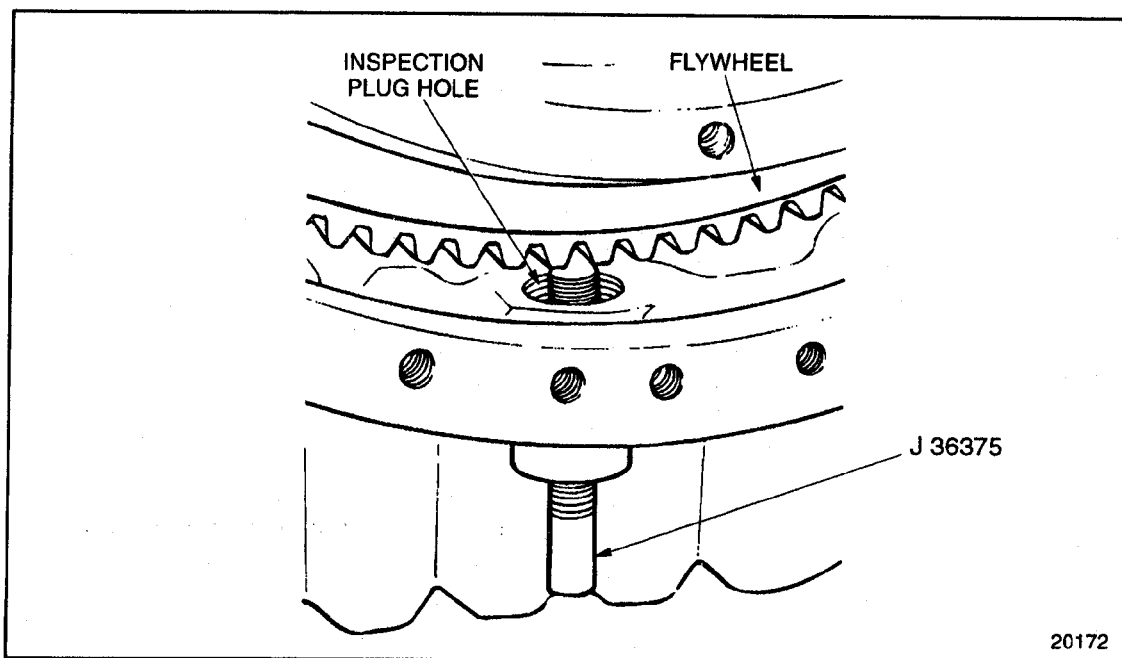

Figure 9-2 Flywheel Lock
1. Remove the inspection plug in the bottom of the flywheel housing and install the J 36375-A ; see Figure 9-2.
1. If removed, install J 36375-A, to the inspection plug hole in the bottom of the flywheel housing; see Figure 9-2.